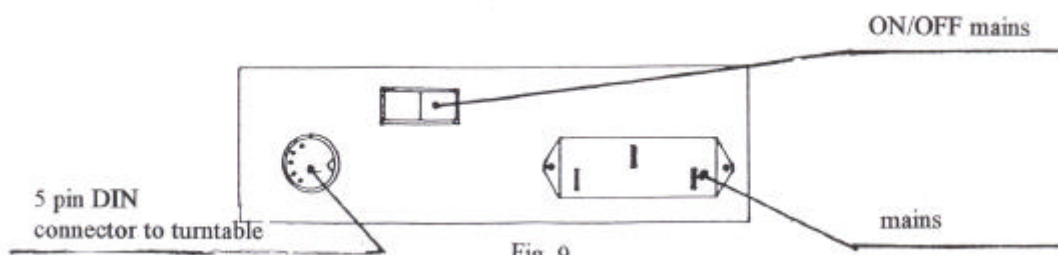

Fig. 9
- b) Connect mains cable into back of power supply. (Fig. 9)
- b) Plug into mains supply. Switch on at rear of power supply. Red light should appear on front panel (Fig. 9)